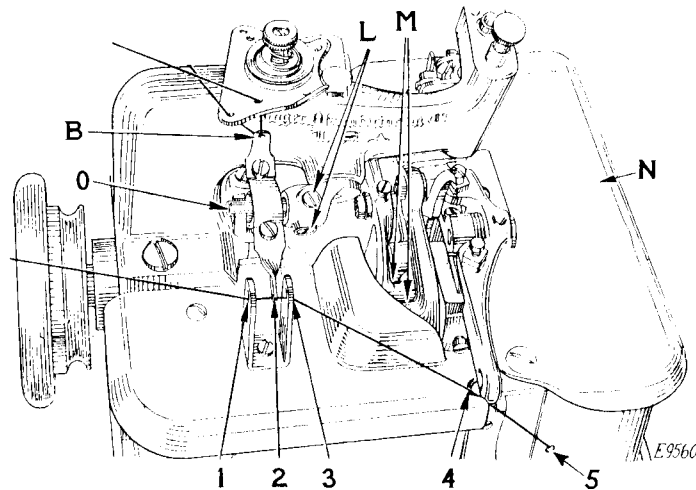

Fig. 43
A variation in the amount of needle bar stroke can be obtained by adjusting the ball stud (O, Fig. 43). To lengthen the stroke, loosen the two set screws (L, Fig. 43) in the needle bar crank and move the ball stud inwardly or toward the crank. To shorten the stroke of the needle bar, move the ball stud outwardly or away from the crank, then securely tighten the set screws (L).